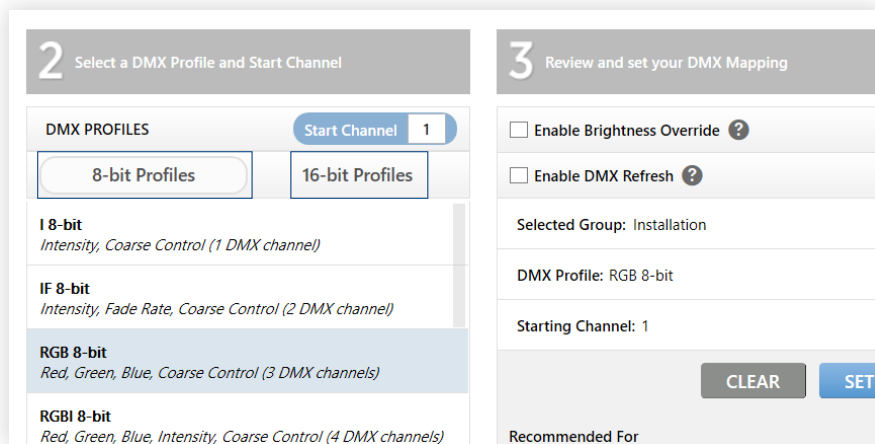

fig. 66
- 2 **Next, choose the Analog I/O tab in Integration.** The tab is pictured in fig. 66.
- 3 **For at least one port, expand the Select Port Type dropdown and select the Contact Closure option.** See fig. 66 for location.